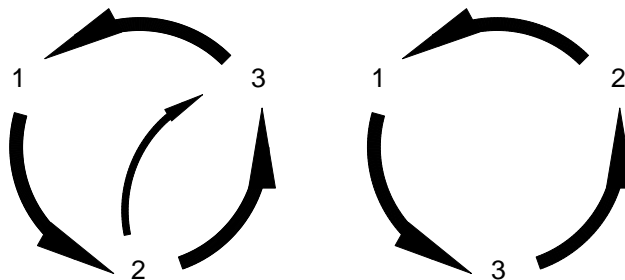

Figure 17
12. Press both cut buttons simultaneously to activate the motor and check to make sure it is turning the same direction as the arrow on the motor casing. If it isn't, disconnect the power and simply exchange any two leads of the power cord as in Figure 17. The motor will now turn the correct direction. Double check to make sure.